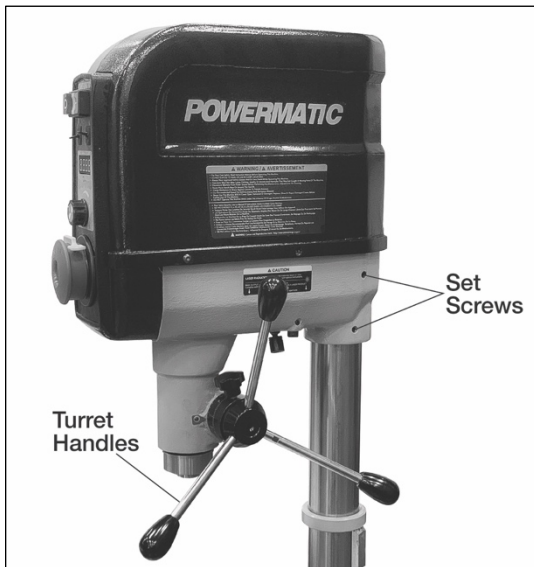

Figure 6-12
1. Adjust head parallel to base and tighten two (2) set screws (Figure 6-12).
2. Install three turret handles into hub on the side of drill head (Figure 6-12). Screw them in completely; use a wrench on the shaft flats to tighten.